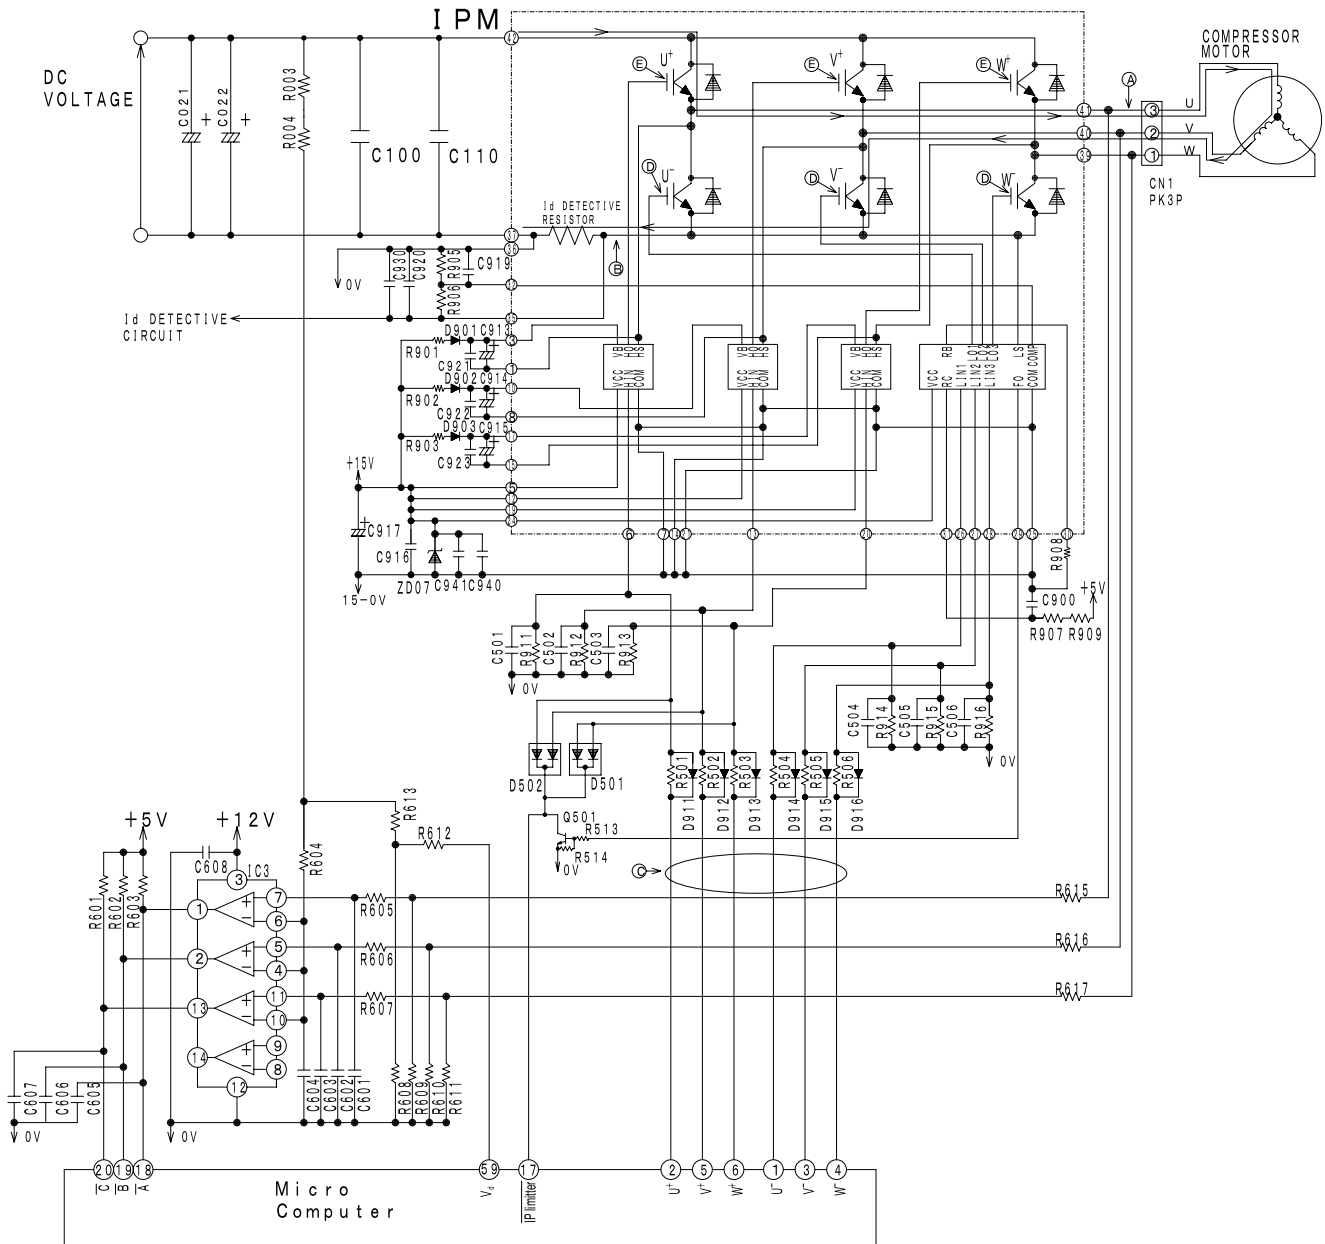
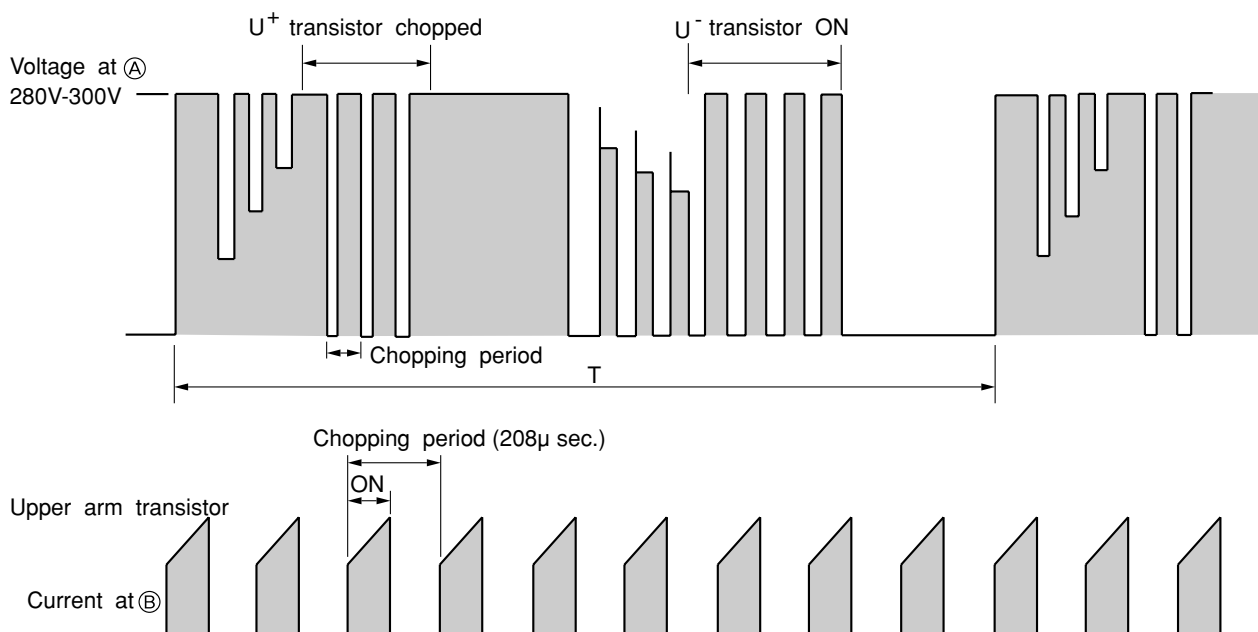

Fig. 4-1 Intelligent power module circuit (U⁺ is ON, V⁻ is ON)
Fig. 4-3 Voltage waveform at each point
- Fig.4-1 shows the intelligent power module and its peripheral circuit.
At point ⑤: U⁺ is ON, V⁻ is ON (circuit in Fig. 4-1)
Fig. 4-3 shows voltage waveform at each point shown in Figs. 4-1 and 4-4. First half of upper arm is chopper, second half is ON, and first half of lower arm is chopper, second half is ON.
- (1) When U⁺ transistor is ON: U⁺ transistor → U coil → V coil → V⁻ transistor → DC current detection resistor → Point ⑤ (Fig. 4-1)
Since current flows at point ③ only when U⁺ transistor and V⁻ transistor are ON, the current waveform at point ③ becomes intermittent waveform as shown in Fig. 4-3. Since current at point ③ is approximately proportional to the input current of the air conditioner, input current is controlled by using DC current (I_d) detection resistor.